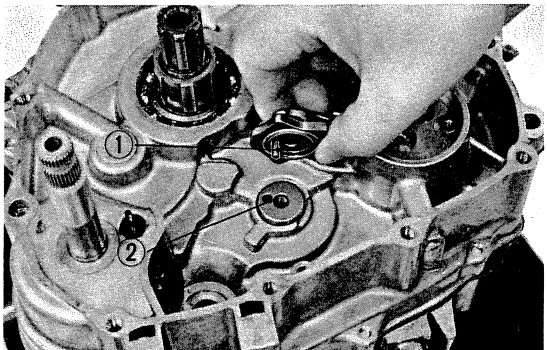

Fig. 74 Pin alignment
- 1) Assemble the gear shift cam so that the cam pin is inserted into the hole in the drum. (Fig. 74)